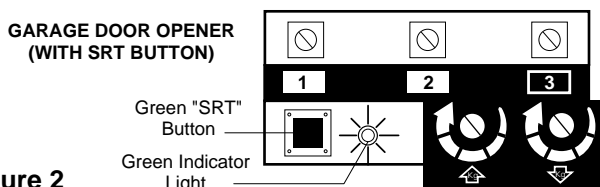

Figure 2
2. Press the selected code digits on the keypad; then press and HOLD the ENTER button, and press the SRT button on the opener end panel (behind the Control Center for screwdrive), Figure 2.